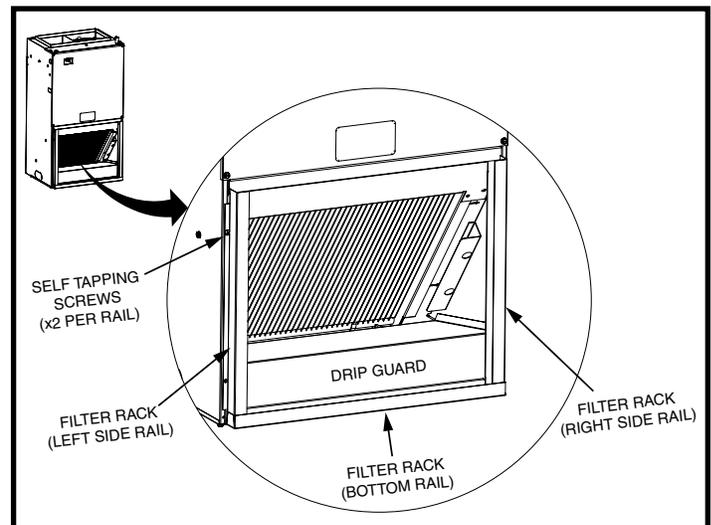

Figure 2. Drip Guard Installed
6. Install the side rails by placing the ends into channel of bottom piece, so that the open area of the channel is facing towards the middle of the air handler. **NOTE:** Make sure the seam where the side rails and filter rack meet are flush with each other. See Figure 2.